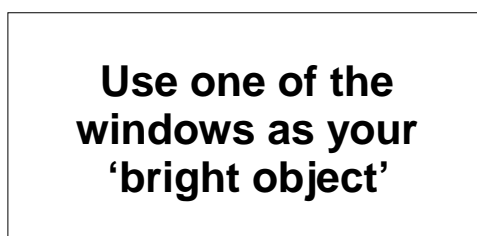

Fig. 2.1
- 1 The card should name a light source that can be used by the candidate. The candidate will focus an image of this source on the white board using each lens. This light source could be a window or a bright lamp, and should be at least 2 m from the candidate. Fig. 2.1 shows an example of the card.